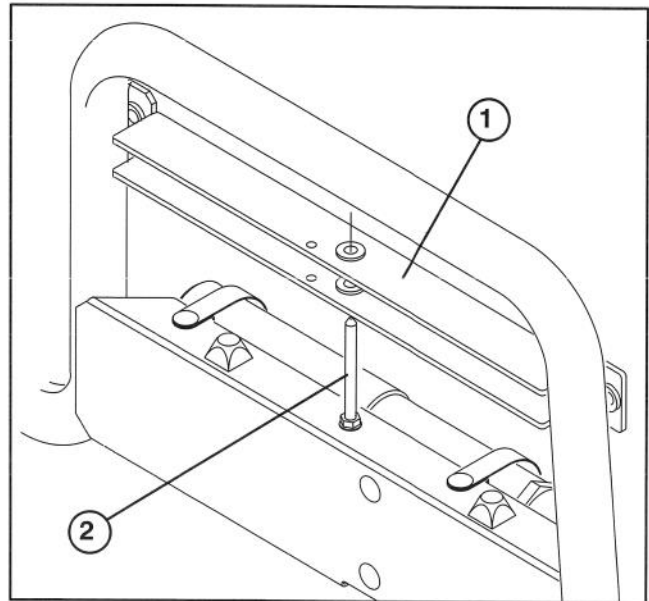

Figure 25
### USING BED SAFETY SUPPORT (Fig. 25 & 26)
2. Remove bed support from storage stud on top of back rest support channel on Workman (Fig. 25).